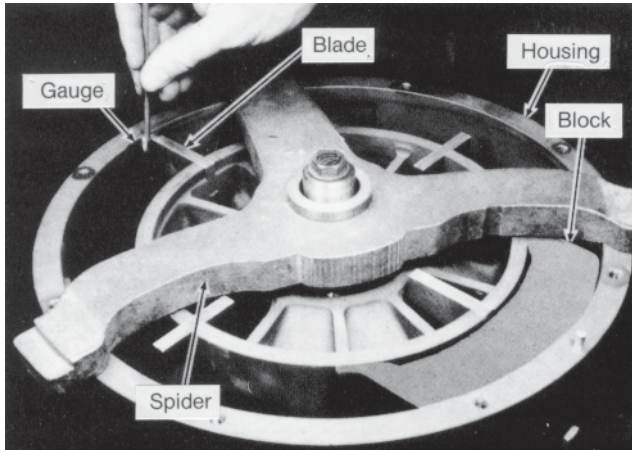

Figure 23 –Checking Blade Tip Toward Housing Clearance
1. Check the blade top toward the housing clearance, Figure 23, and compare with Clearance Guide.